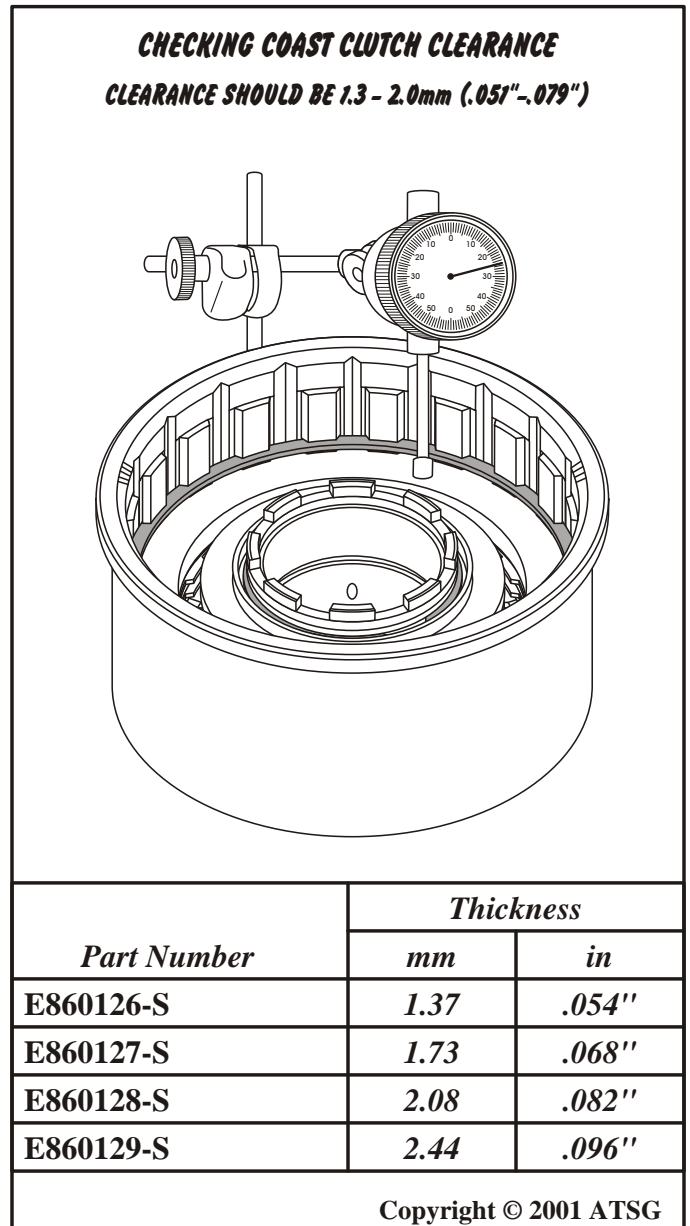

Figure 69
17. Install dial indicator on top of backing plate, as shown in Figure 69, and check the coast clutch clearance. Should be 1.3-2.0mm (.051"-.079"), as shown in Figure 69.
18. Change the selective backing plate snap ring as necessary, using the chart in Figure 69, to get the proper clutch clearance.